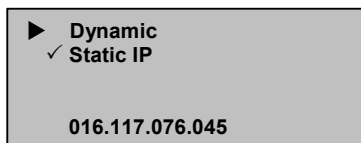

Figure 28: Set Dynamic IP
7. Scroll to Static IP. (See Figure 28.)